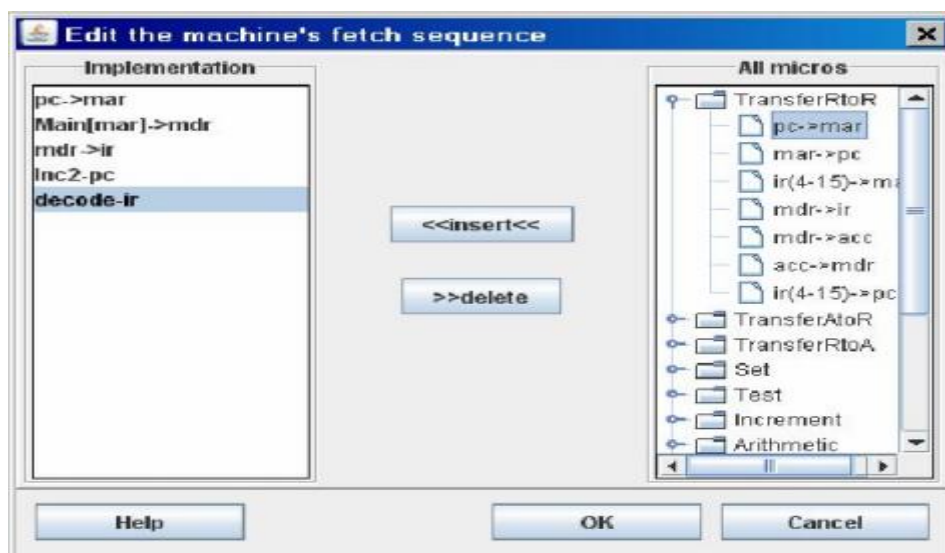

Figure 7: Fetch sequence
3. To specify where the new microinstruction is to be inserted into the fetch sequence, click on the microinstruction in the left scroll box before which you want to insert the new microinstruction and click "<<insert<<" (see Figure 7)